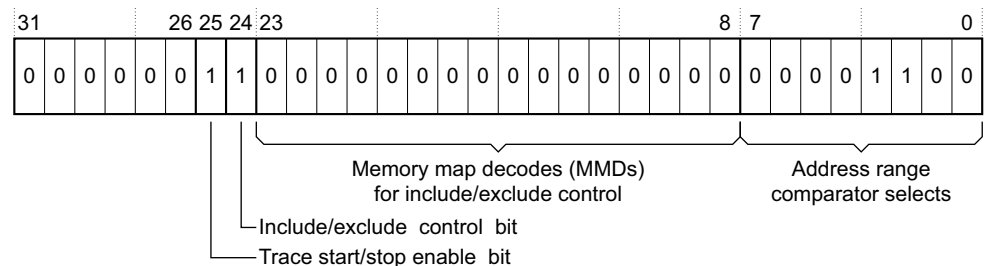

Figure 3-81 ETMTECR1 example
- Program the ETMTECR1 as Figure 3-81 shows.